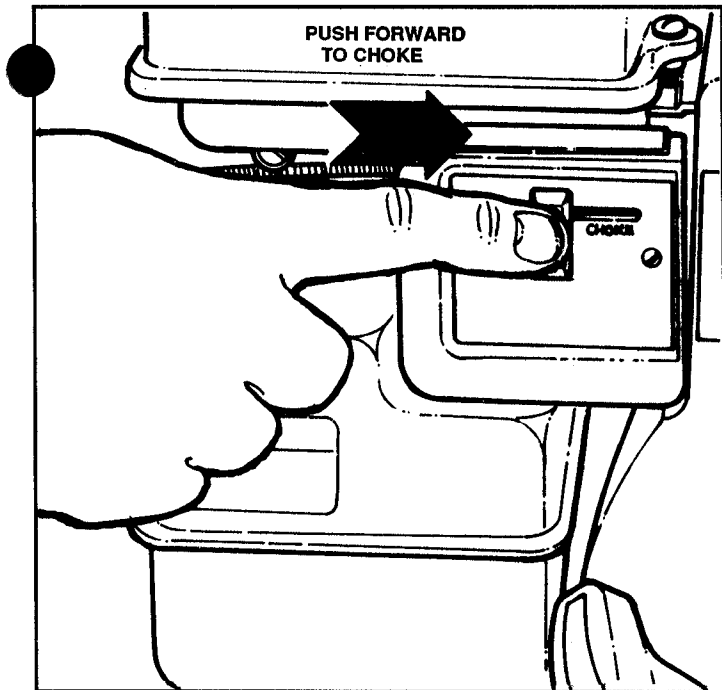

FIGURE 5
STEP 2: On cold starts, move the CHOKE CONTROL on the engine forward into CHOKE position. See Figure 5.